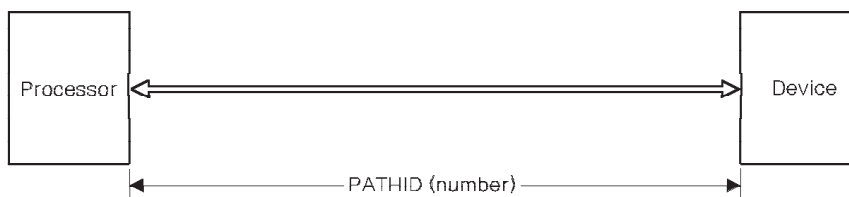

Figure 5-1. Example of a Logical Link Connection
- Logical link connection (Figure 5-1)